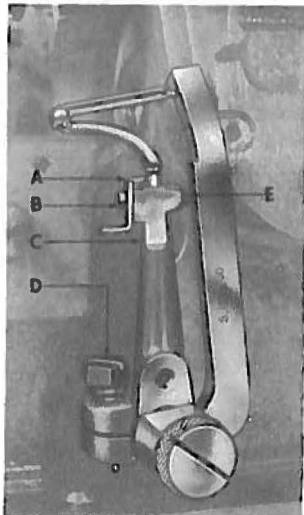
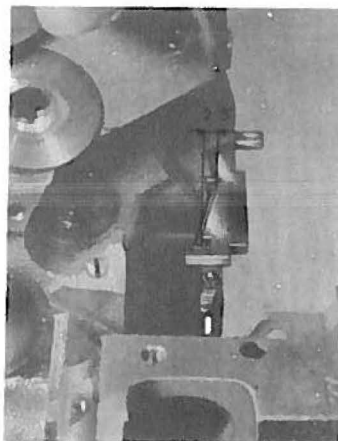

fig. 4
fig. 5
- S. 1552.00 for all operations except operation n.4 (fig.4).
- S. 1555.00 for operation n. 4 (fig.4).
4) SETTING PRIMARY LOOPER (fig. 4)
- mount looper height gauge n. S.1555.000 on the primary looper shaft with special screw supplied with gauge as shown in fig. 4.
- Slightly tighten screw E (fig. 4)
- Rest timing gauge n. S. 1552.00 (fig.5) on the milled surface of the base and adjust looper lever C (fig. 4) forward or backward on primary looper lever C until the correct angle of the looper is obtained on timing gauge n. S. 1552.00 (fig. 5).